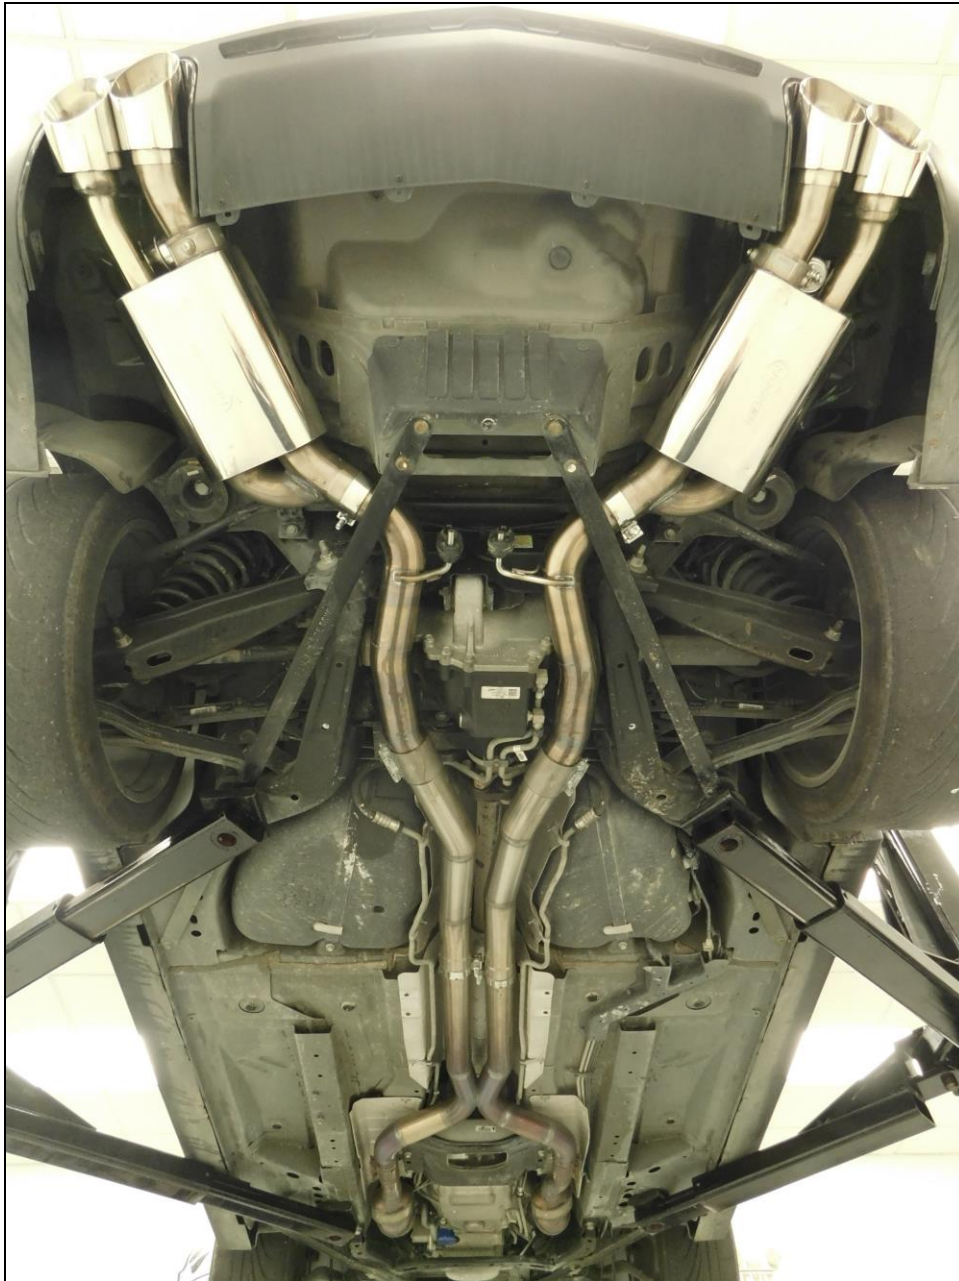

Figure 3
4. Install the supplied 3" band clamp on to the expanded inlet of the intermediate pipes with the bolt to the inside and the nut facing down (**Figure 3**). **NOTE: The driver's side intermediate pipe will have the shorter length of tube between the expanded section and the first bend (Figure 3).**
6. Install a supplied 3" coupler on to the outlet of each intermediate pipe with the bolts to the outside and the nuts facing down (**Figure 3**).
9. Install a supplied 3" band clamp on to the expanded inlet pipe of each muffler with the bolt to the outside and the nut facing down (**Figure 3**).
11. Slide the previously installed 3" couplers from the intermediate pipe on to the muffler link pipes. Position the coupler with a 50/50 split between the tubes and tighten the bolts to allow for adjustment (**Figure 3**).